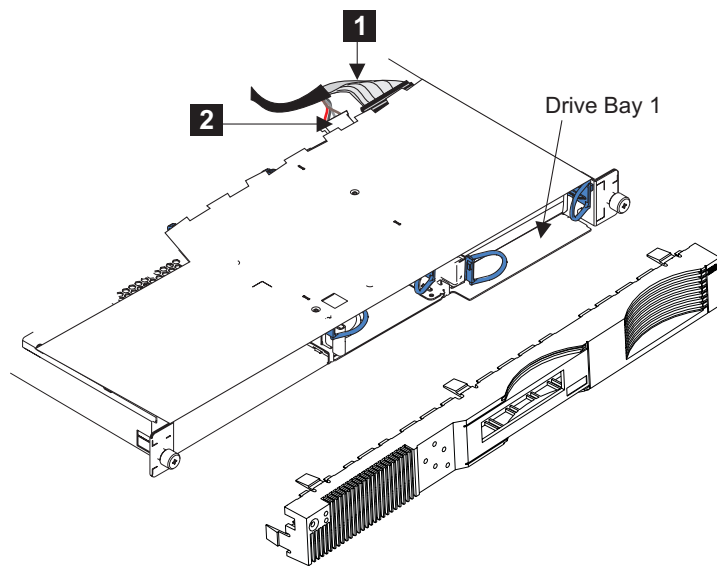

Figure 105. SAN Volume Controller 2145-4F2 disk drive and front panel
1. Connect the SCSI signal connector **1** and the power connector **2** to the back of the disk drive, as shown in Figure 105, and then replace the cable.